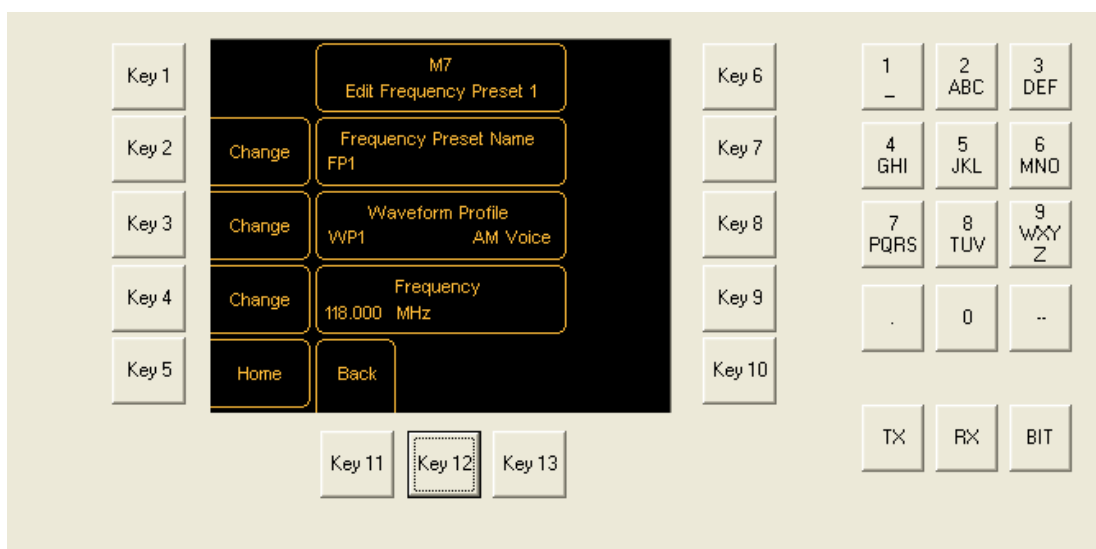
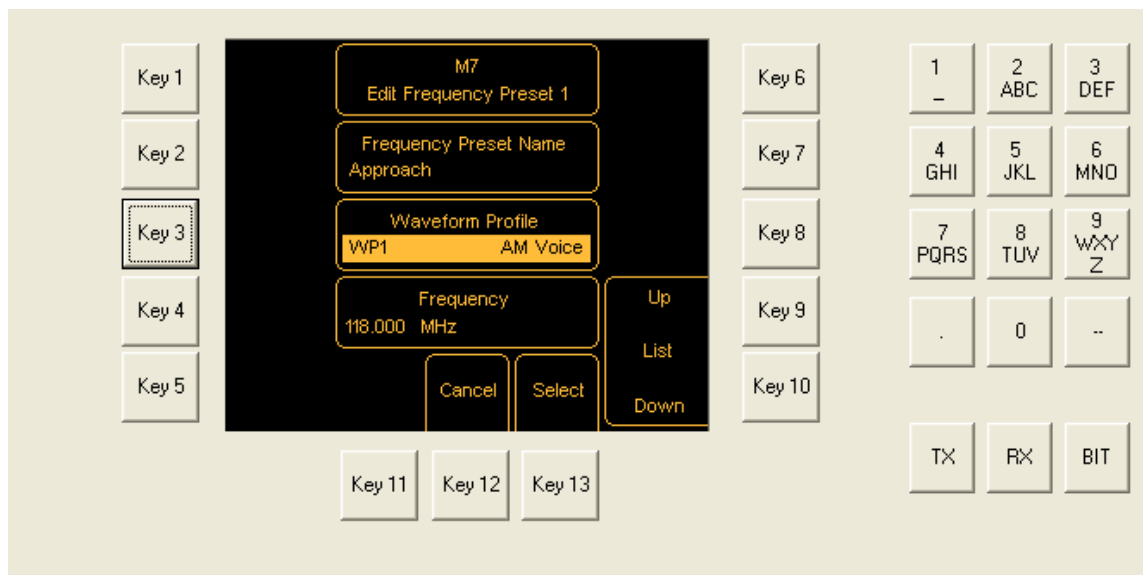

Fig 3-41 Frequency Preset Edit Screen
Fig 3-43 Select Waveform Profile
- (2) Pressing *Key 9* to scroll up, or *Key 10* to scroll down, highlight the frequency preset to be edited then press *Key 12 – Edit* to display the Frequency Preset Edit screen (Fig 3-41).
- (4) When the new name has been entered, press *Key 13 – Select*. You are returned to the Frequency Preset Edit screen (Fig 3-41).
- (5) The next parameter is to attach a previously stored Waveform profile to the frequency preset. Press **Key 3 – Change** (Fig 3-41). Pressing **Key 9** to scroll up, or **Key 10** to scroll down, highlight the required waveform profile (Fig 3-43), then press **Key 13 – Select**.